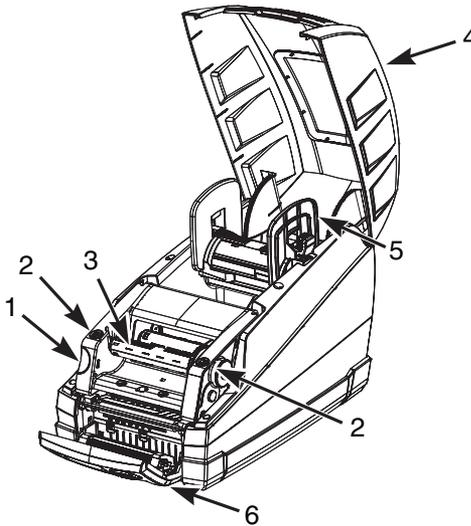
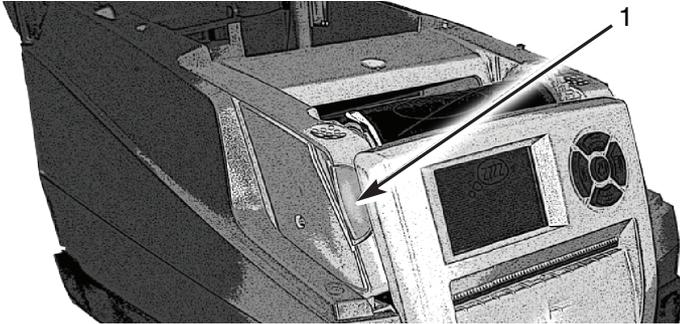
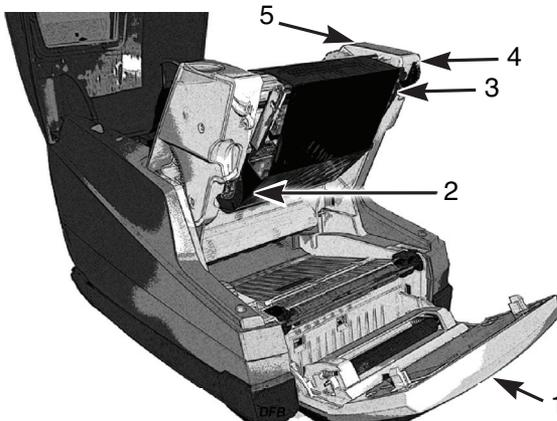
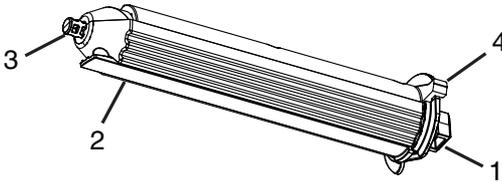

Figure 11, Brady IP Printer
Figure 12, Print Module Release Button
Figure 13, Loading the Ribbon
Figure 14, Ribbon Take-up Spindle
- Open the Brady IP printer cover (**Figure 11, 4**).
1. Open the cover (**Figure 11, 4**) and press the green print module release button (**Figure 12, 1**) to open the control panel (**Figure 13, 1**).
2. Raise the print module (**Figure 13, 4**).
3. Position the square end of the new ribbon spindle in the square notch on the right side of the printer, push the spindle slightly to the right and slide the other end of the spindle into the notch (**Figure 13, 2**) on the left side of the printer.
4. Bring the ribbon end forward and over the thermal printhead (**Figure 13, 3**) to the ribbon take-up spindle (**Figure 14**).
To replace the ribbon take-up spindle, position the square end (**Figure 14, 1**) of the spindle in the square notch on the right side of the printer, push the spindle slightly to the right and slide the other end of the spindle into the notch on the left side of the printer.
5. Slide the end of the ribbon under the ribbon hold-down tab (**Figure 14, 2**) so that about 2 inches (50.8 mm) protrudes past the tab.
6. Turn the adjustment wheel (**Figure 13, 5**) a few complete revolutions, to ensure that the ribbon will not pull out from under the ribbon hold-down tab. The ribbon should now be snug and smoothed out against the printhead.
NOTE: To remove ribbon from the ribbon take-up spindle, press and hold the thumb lever (**Figure 14, 4**) to compress the spindle and slide the spent ribbon off the spindle.
7. Apply thumb pressure to the close points (**Figure 11, 2**) on both sides of the print module until it latches securely in place. Once the print module is latched in place, raise the control panel and snap into the closed position.
8. Close the printer cover (**Figure 11, 4**).